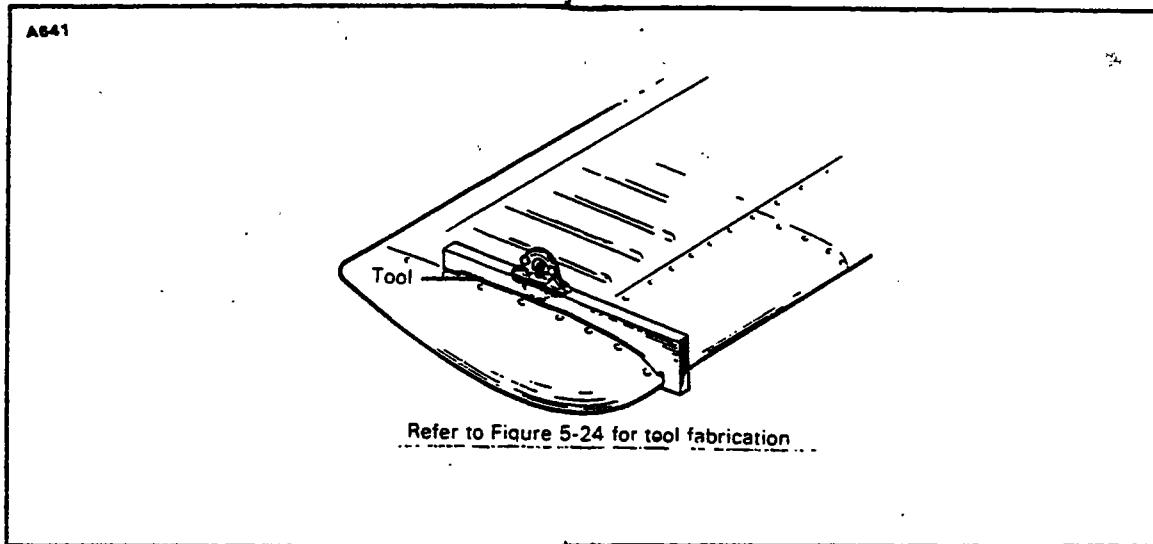

Figure 5-7. Stabilator Rigging Tool
1. Check the stabilator travel by placing a rigging tool on the upper surface of the stabilator as shown in Figure 5-7. (This tool may be fabricated from dimensions given in Figure 5-24.)